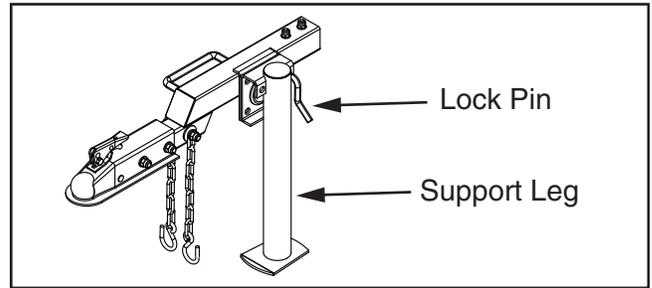

Figure 11. Support leg locked in down position.
5. Pull lock pin out and pivot support leg until pin locks leg in down position (see **Figure 11**).